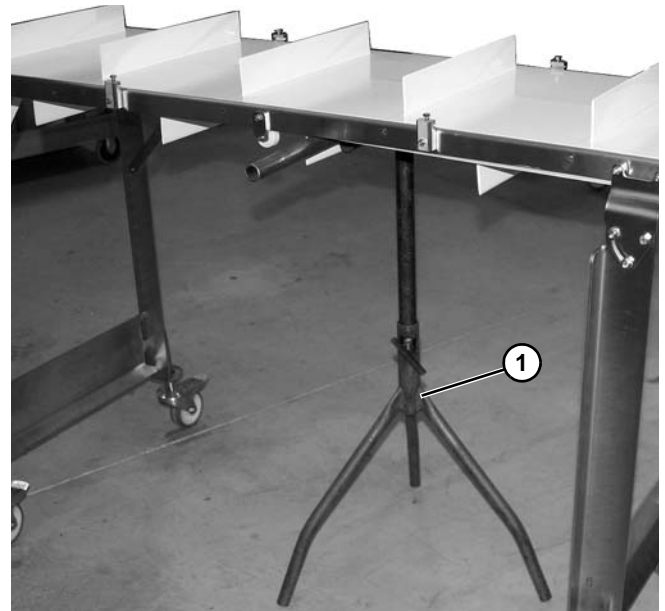

Figure 50
3. Place temporary support stands (**Figure 50, item 1**) at both ends of the conveyor. Place an additional support stand under the drive motor, if equipped. See WARNING.